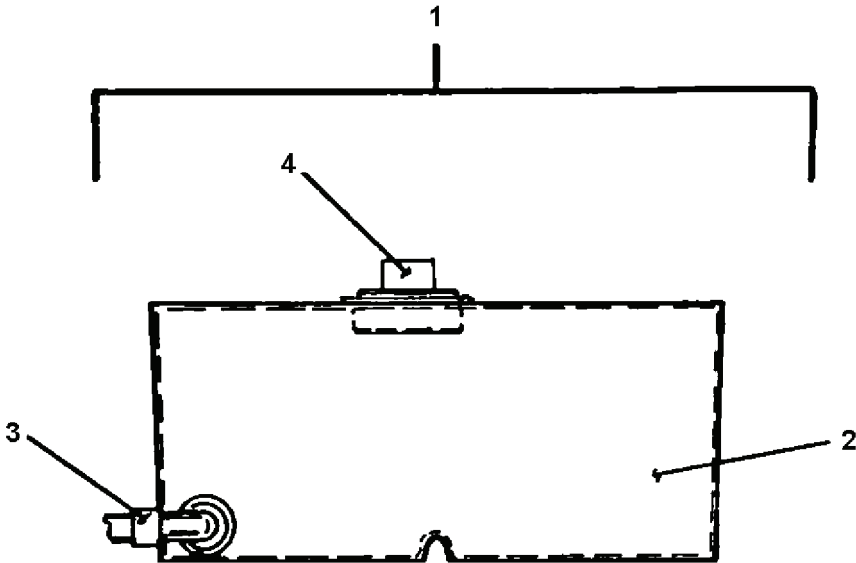

Figure 2-26. Bleach Tank Assembly.
2-23. Bleach Tank Assembly. (Figure 2-26 and 2-11)
To remove Bleach Tank Assembly (Figure 2-26), proceed as follows:
- d. Disconnect bleach line at adaptor elbow (3, Figure 2-26) on the tank.
- a. Position the new tank (2, Figure 2-26) in its mounting.
- b. Connect the bleach line to the adapter elbow (3).
- e. Install fill plug (4, Figure 2-26).